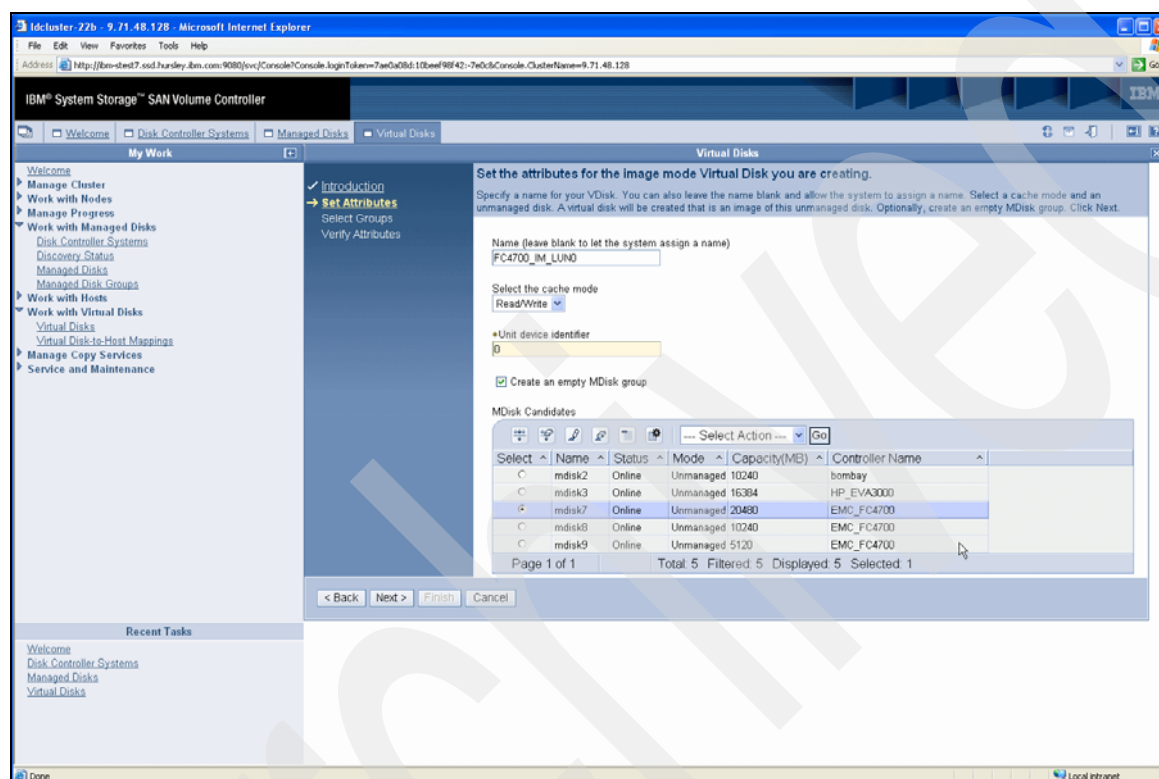

Figure 6-19 Create Image Mode VDisk set attributes
5. Figure 6-19 shows the second screen in this wizard, on which several attributes are set: